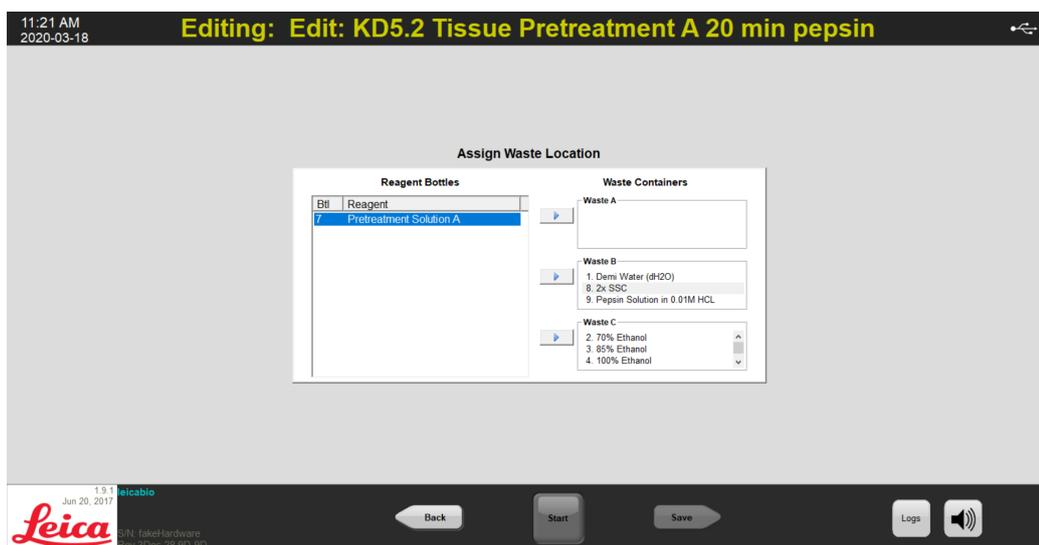

Figure 6-38: Assign Waste Location
2. Select a reagent and click the appropriate forward arrow > to select the Waste Bottle. To change the reagent location, click on the reagent in the Waste Bottle field, and then click on the arrow to return the reagent to the Reagent Bottles field. See Figure 6-38 - Assign Waste Location below.